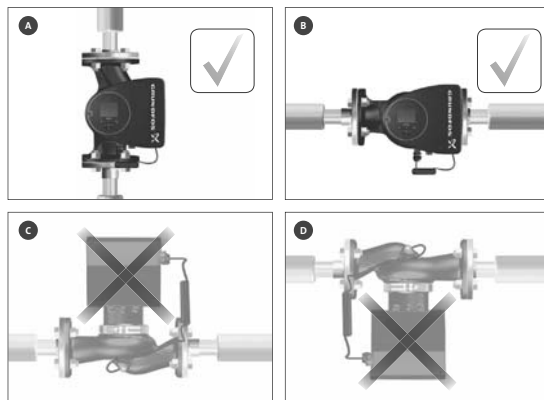

Fig. 8 Pump installed with horizontal motor shaft
- Pump installed correctly in a vertical pipe. See fig. 8, pos. A.
- Pump installed correctly in a horizontal pipe. See fig. 8, pos. B.
- Do not install the pump with vertical motor shaft. See fig. 8, pos. C and D.